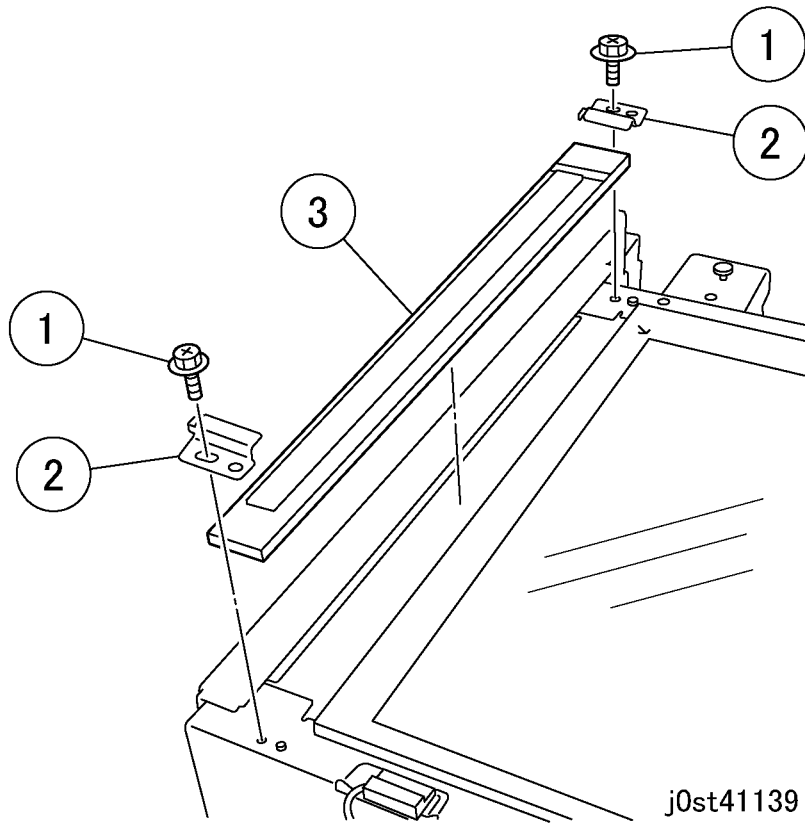

Figure 2 Removing the Left Side Platen (j0st41139)
3. Remove the Left Side Plate. (Figure 2)